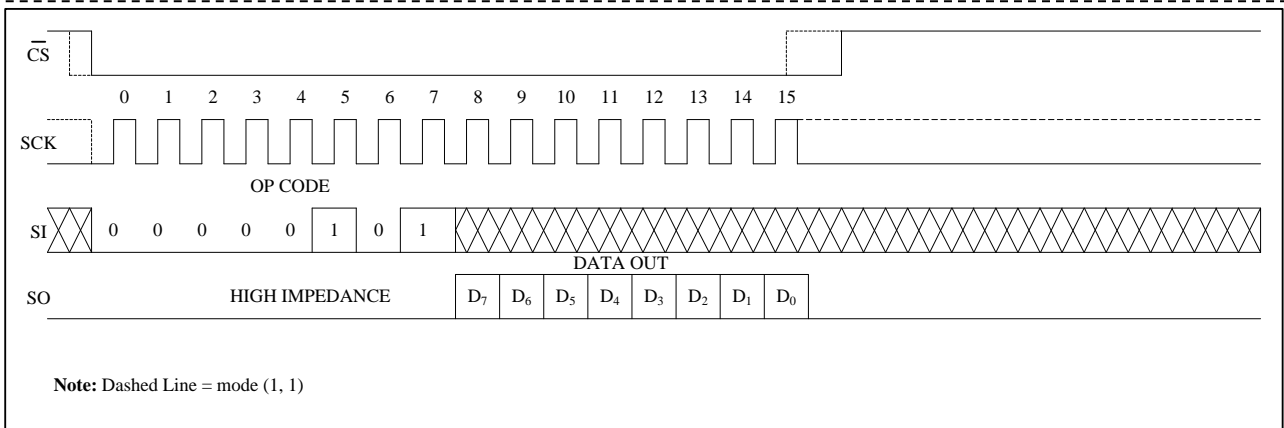

Figure 9
Read Identification Page: Reading the additional 256-byte Identification Page (IP) is achieved using the same Read command sequence as used for Read from main memory array (Figure 9). The IPL bit from the Status Register must be set (IPL = 1) before attempting to read from the IP. The [A7:A0] are the address significant bits that point to the data byte shifted out on the SO pin. If the \overline{CS} continues to be held low, the internal address register defined by [A7:A0] bits is automatically incremented and the next data byte from the IP is shifted out. The byte address must not exceed the 256-byte page boundary.
Read Status Register: To read the status register, the host simply sends a RDSR command. After receiving the last bit of the command, the BL25CM2A will shift out the contents of the status register on the SO pin (Figure 9). The status register may be read at any time, including during an internal write cycle.